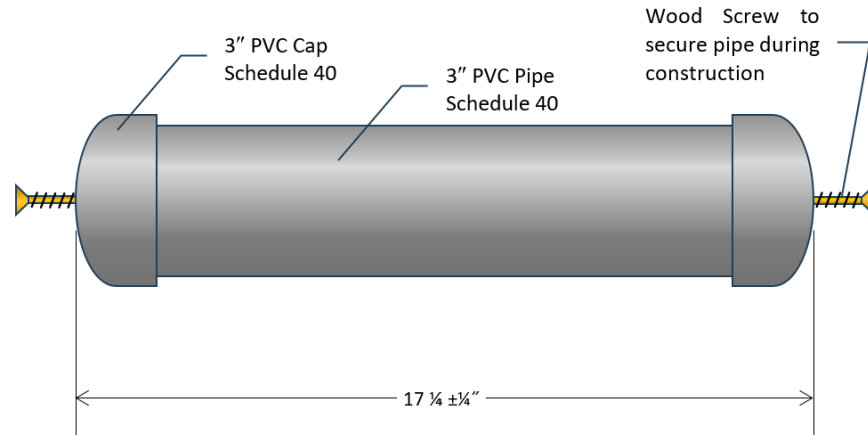

Figure 3: Dimensions of the PVC pipe (not to scale)
- f) Include a PVC tunnel (Figures 3 and 4) to represent the tunnel obstruction. Temporary templates may be used to control alignment of the pipe.